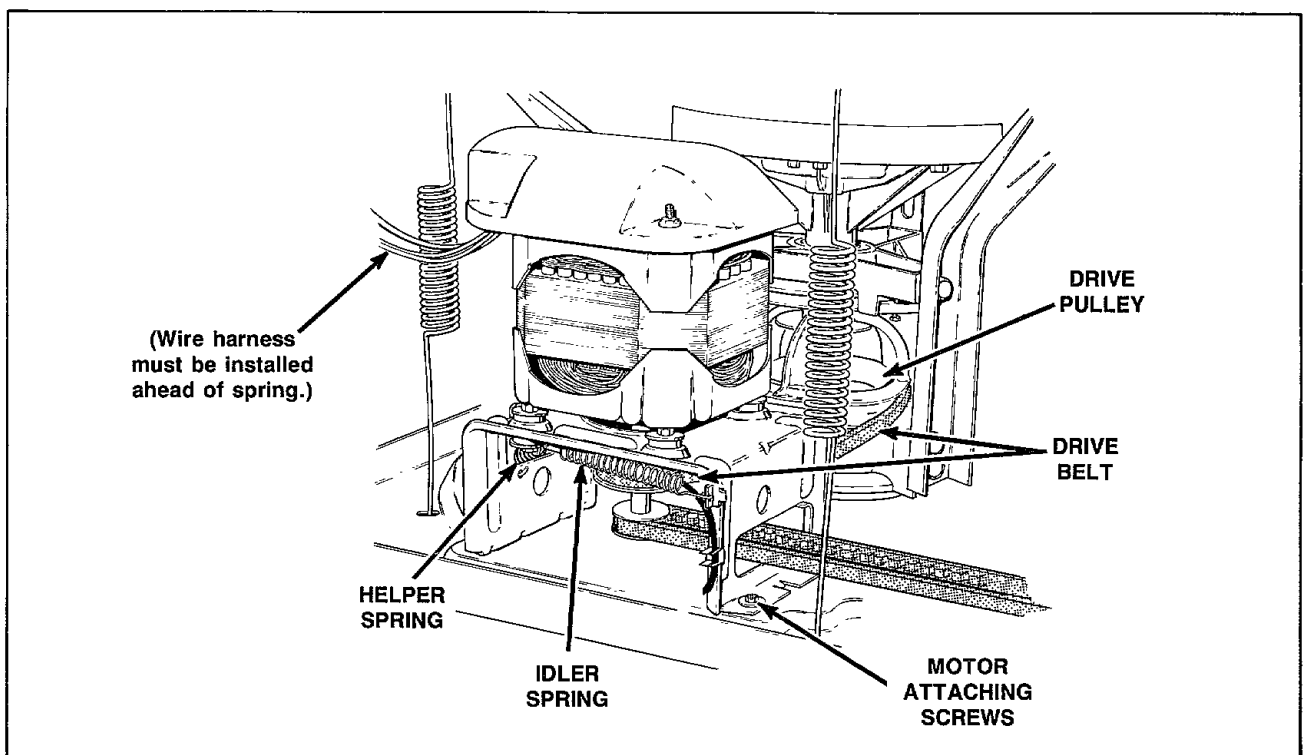

Figure 22
- d. While holding idler lever, reach in and around right side of motor and run belt off right side of large drive pulley, *Figure 22*.